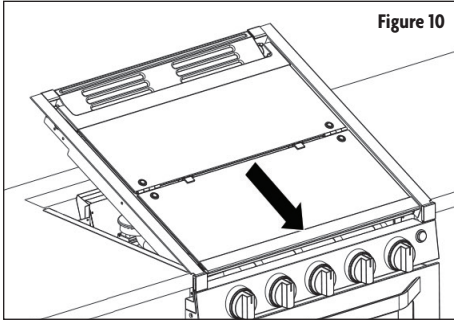
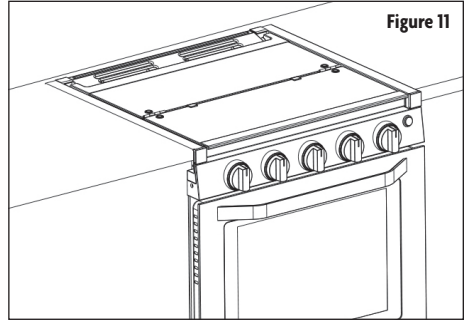

Figure 10
Figure 11
7. Align the top glass cover assembly with the slots on the cooktop and place it into the range oven. (Figure 10 and Figure 11)